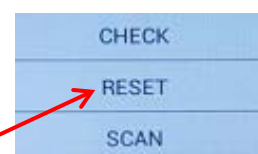

Figure 3
- ◆  is used to scan and check chip information and it is only available in the interfaces of Figure 2 and Figure 3. In other interfaces, this function cannot be operated.